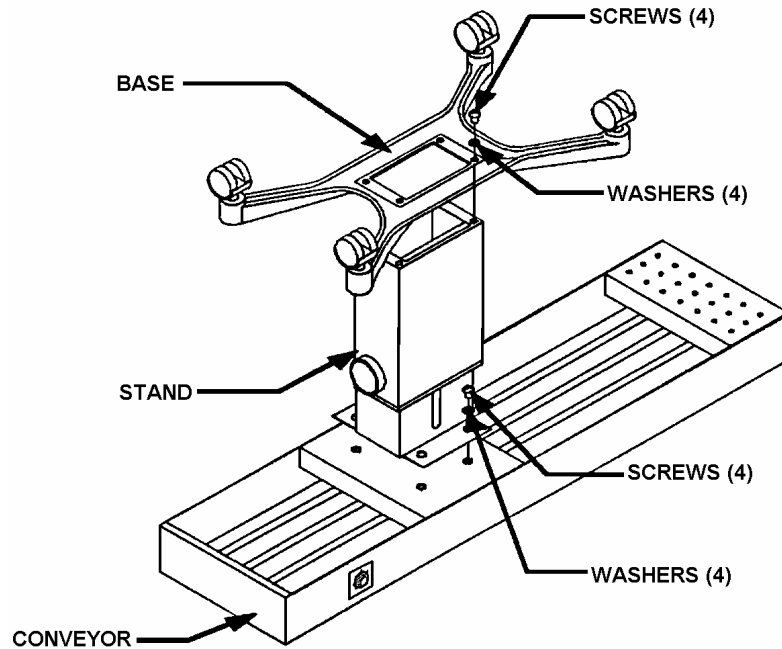

Figure 1
3. Attach the stand to the conveyor using (four) 10-32 screws and (four) washers (Figure 1).
4. Attach the base to the stand using (four) 1/4-20 screws and (four) washers (Figure 1).